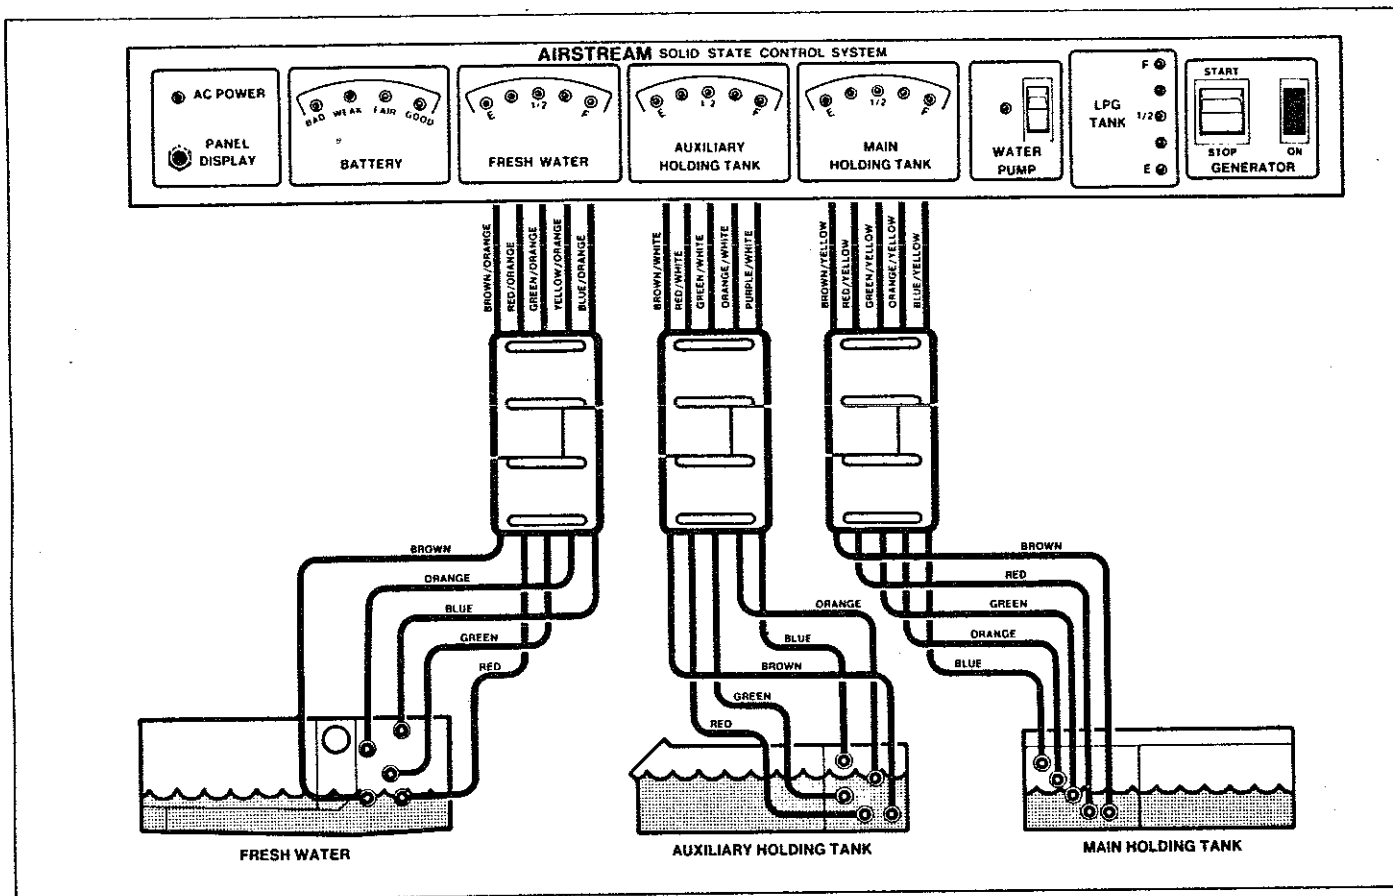

Figure 6.
2. Fig. 6 illustrates the amount of liquid in the tanks for each of the five positions.